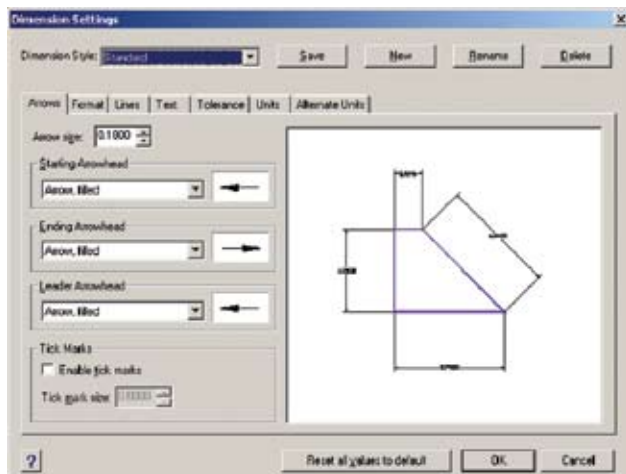

Figure 4.5
- A Dimension Settings dialog box appears. See Figure 4.5 below.
- The Dimension Settings dialog box returns. See Figure 4.5.